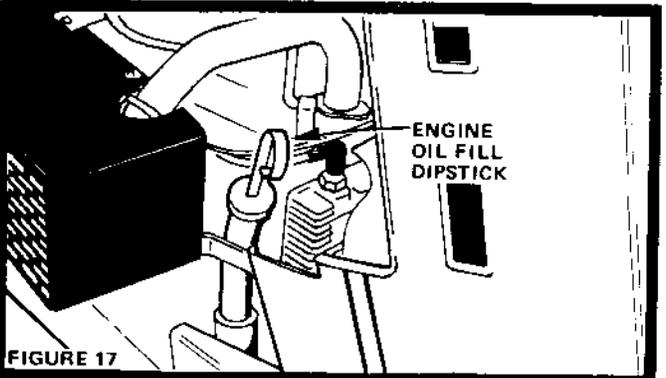

FIGURE 17
- Refill Engine Oil (Fig. 17). In summer use S.A.E. 30 (SC, SD or SE) Oil. In winter (below 32°F.) use S.A.E. 10W30 (SC, SD or SE) or 10W40 (SC, SD or SE). In extreme cold (below 0°F.) use S.A.E. 5W20 (SC, SD or SE). Capacity is 3 - 1/2 pints without Oil Cartridge change. NOTE: DO NOT OVERFILL.
Several minutes after stopping Engine, check Engine Oil Level with Tractor on level ground. Wipe dipstick (Fig. 17) clean, push it down tight for a few seconds, remove and read Oil Level. If necessary, add Oil until "FULL" mark is reached. In summer use S.A.E. 30 (SC, SD or SE) Oil. In winter (below 32°F.) use S.A.E. 10W30 (SC, SD or SE) or 10W40 (SC, SD or SE). In extreme cold (below 0°F.) use S.A.E. 5W20 (SC, SD or SE). NOTE: DO NOT OVER-FILL.